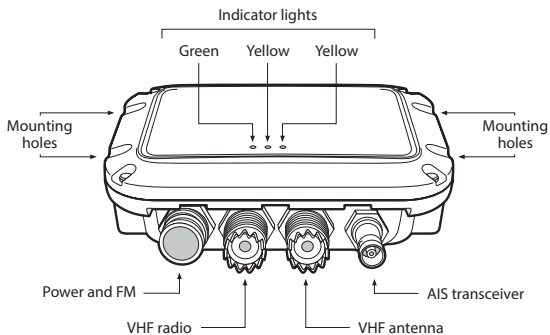

Figure 2 AIS antenna splitter overview.
- **AIS Antenna Splitter Unit:** Figure 2 shows an overview of the AIS antenna splitter unit. The AIS antenna splitter has a number of indicators which provide information to the user about the status of the AIS antenna splitter. Please refer to section 4 for more details of the indicator functions. The AIS antenna splitter mounting holes are located as shown in Figure 2. Please refer to section 3.2 for details of how to mount the AIS antenna splitter.
The AIS antenna splitter has the following electrical connections as shown in Figure 2.